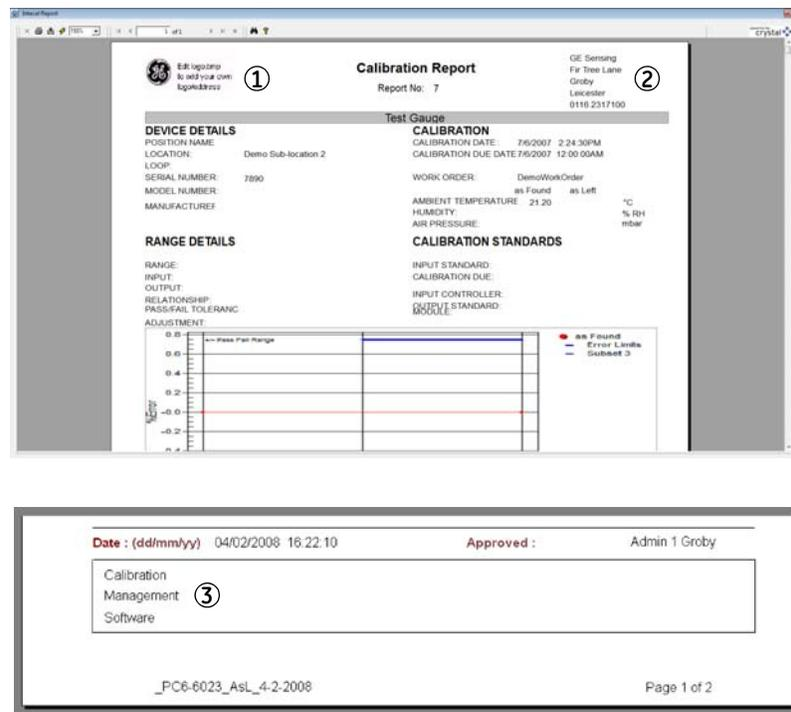

Figure 2-8: Calibration Report Details (Header/Footer)
Use this option to set up your calibration reports (Chapter 7) with a company logo (1), a company address (2) and standard footer text (3). See Figure 2-8.